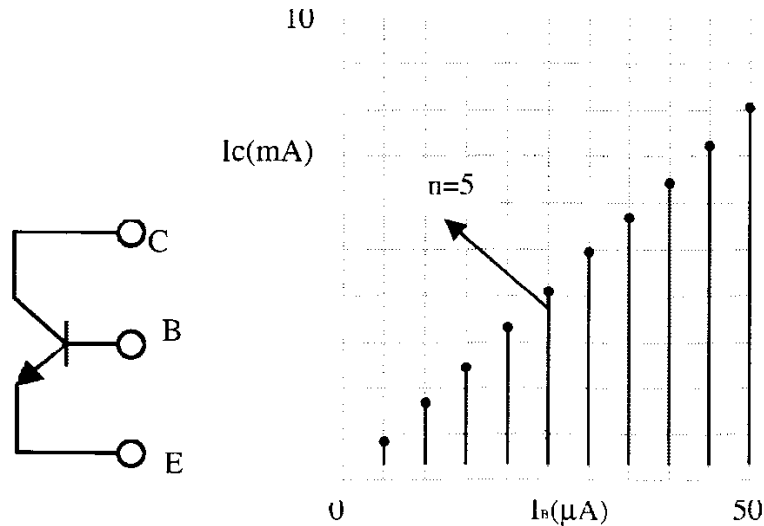

Fig. 3-2
3.2.2 H_{FE} measurement of NPN 9013 transistor (see Fig. 3-2)
The following curves in Fig. 3-2 are obtained by turning the X axis horizontal switch anticlockwise to the end.